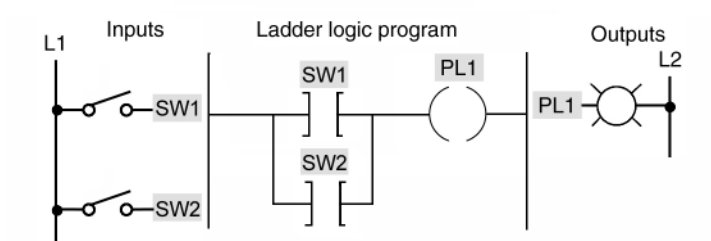

Figure 2-17 Program for assignment 4.
4. (a) Program your controller to operate according to Figure 2-17.